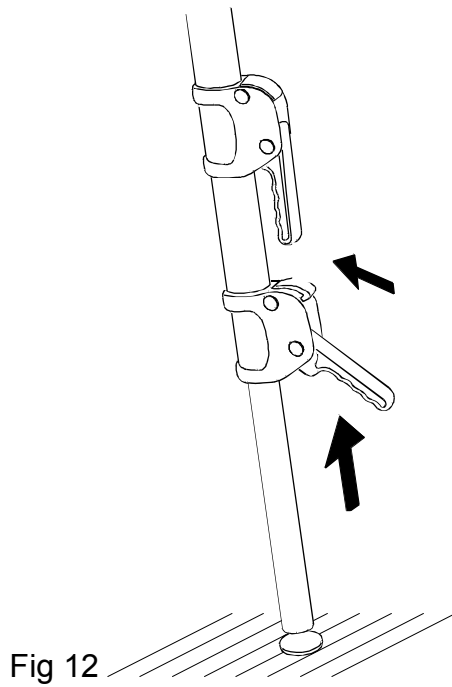

Fig 12
2. Select a convenient leg. Release the blue lower leg handle and lift the leg slightly off the floor. Lift the locking catch and retract lower leg approximately 75 mm (3 inches). Transfer grip to other leg, this time fully retracting the lower leg. Still retaining your grip on the leg and using the weight of the Highlite, assist the first leg to fully retract (Fig 12).